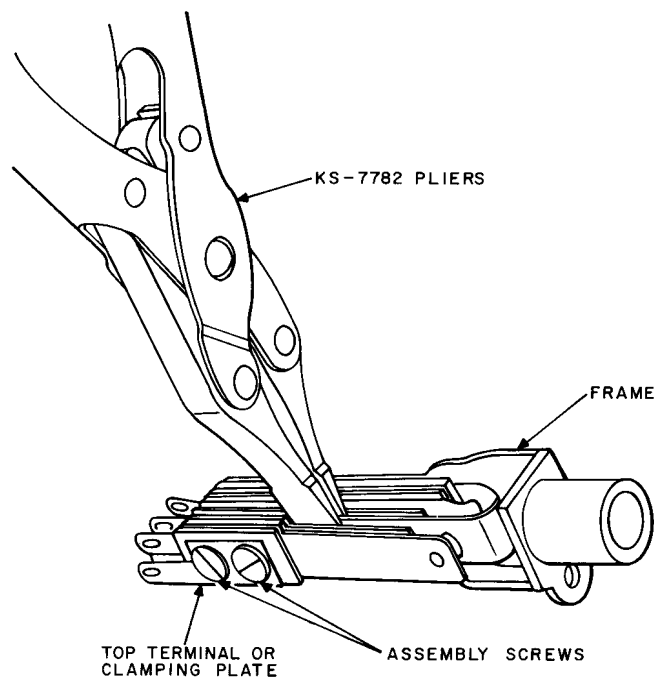
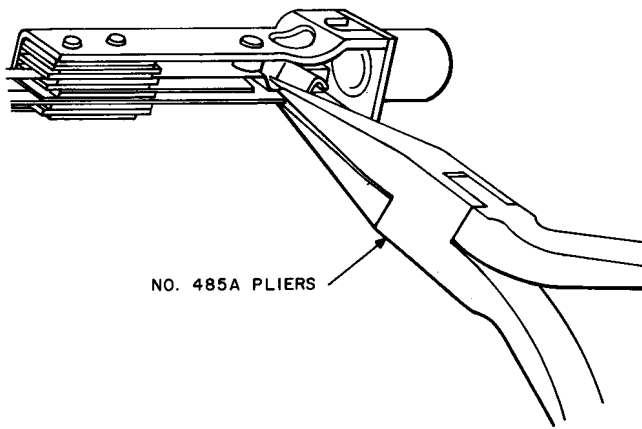

Fig. 4—Method of Adjusting Spring Tension and Contact Pressure
Fig. 5—Method of Adjusting for Contact Separation or to Correct for Butt
- (1) Adjust the springs for spring tension, contact pressure, spring clearance, stud clearance, or contact sequence with the KS-7782 or KS-6015 pliers applied at the rear of the spring where it leaves the insulators as shown in Fig. 4. If failure to meet the contact make requirement is due to misalignment of the prongs of the bifurcated spring, using the 485A pliers, adjust the individual prongs so that both prongs are approximately in the same horizontal plane. In those cases where there is insufficient spring separation to permit the use of the KS-7782 or KS-6015 pliers, loosen the spring assembly screws with the 4-inch E screwdriver or the 544A socket wrench until the springs can be adjusted or, if necessary, remove the spring assembly and adjust the springs. See (2). If the assembly is removed, wipe off the parts with the KS-2423 cloth. Adjust tip or ring springs for contact separation or to correct for butt with the 485A pliers applied to the front of the spring just behind the crook in the spring as shown in Fig. 5. Adjust contact springs for contact separation or contact follow